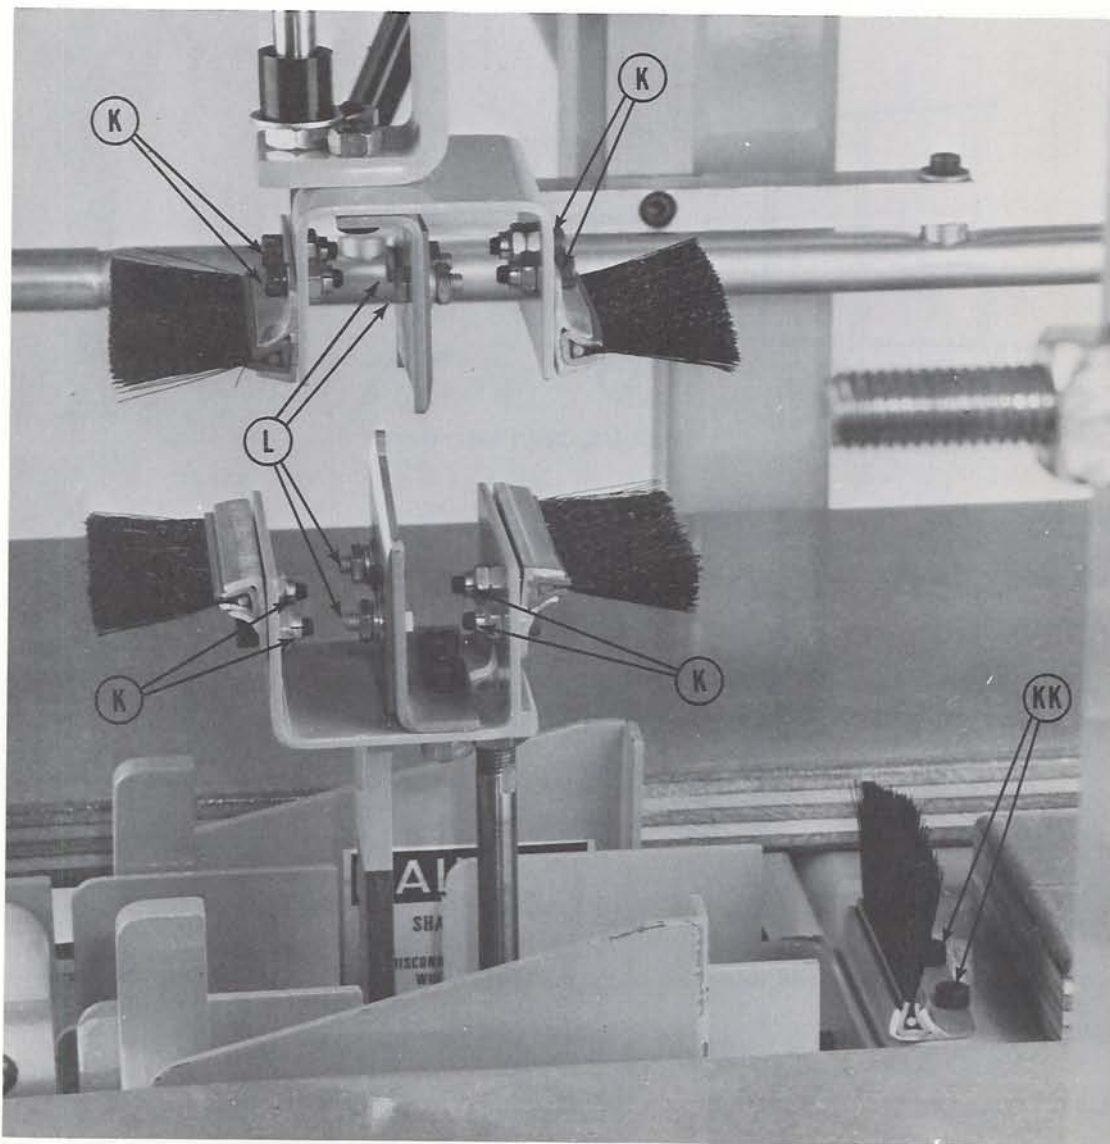

FIGURE 12 - CUT AND BUFF HEADS -RIGHT SIDE VIEW
VERTICAL BRUSHES - Refer to Figure 12.
HORIZONTAL BRUSHES - Refer to Figure 12.
BLADE REPLACEMENT: (Refer to Figures 12 and 13.)
1. Manually outstroke the cut and buff heads, as shown in Figure 12, one at a time.
2. Remove and retain the blade screw (L), nut and washer from each blade. Remove the old blades.